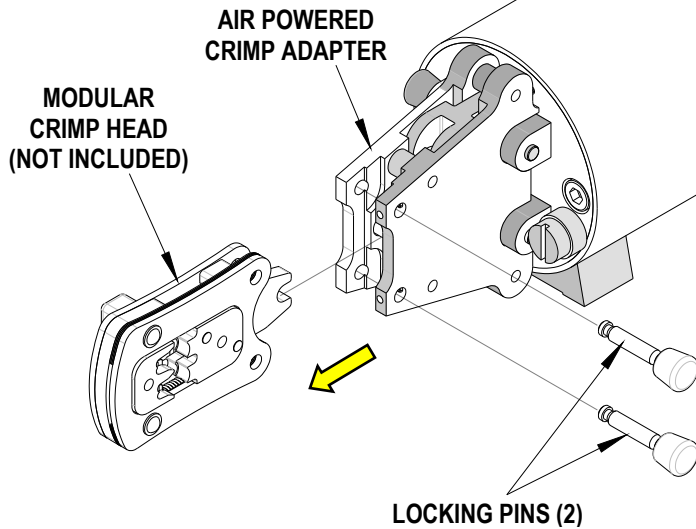

Figure 3-4
1. Remove the locking pins (2) from the air powered crimp adapter on the air powered tool.
5. Replace the locking pins (2) making sure that the modular crimp head is secure. The locking pins can be inserted from either side of the adapter. See Figure 3-4.